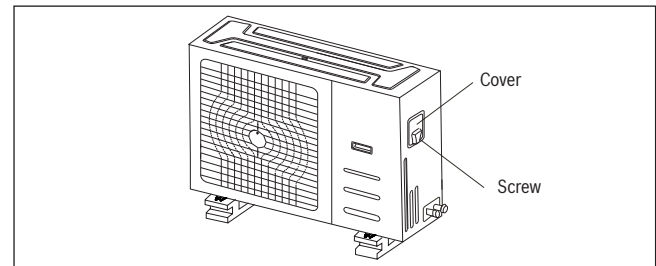

Fig. 45.
2. Remove the electric cover of the outdoor unit. If there is no cover on the outdoor unit, take off the bolts from the maintenance board and remove the protection board. (See Fig. 45).